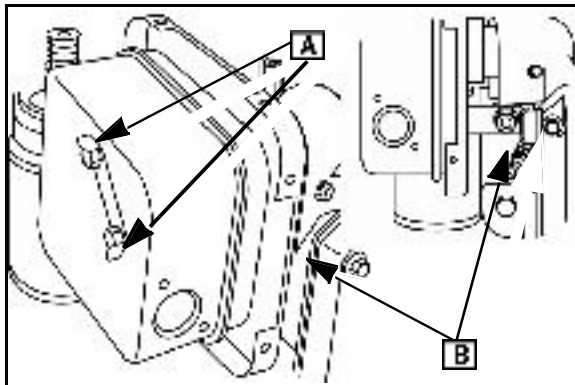

Fig. 7
2. Bend down locking tabs (A) on screw lock.
3. Remove muffler screws and muffler brace nut ([B] Fig. 7).